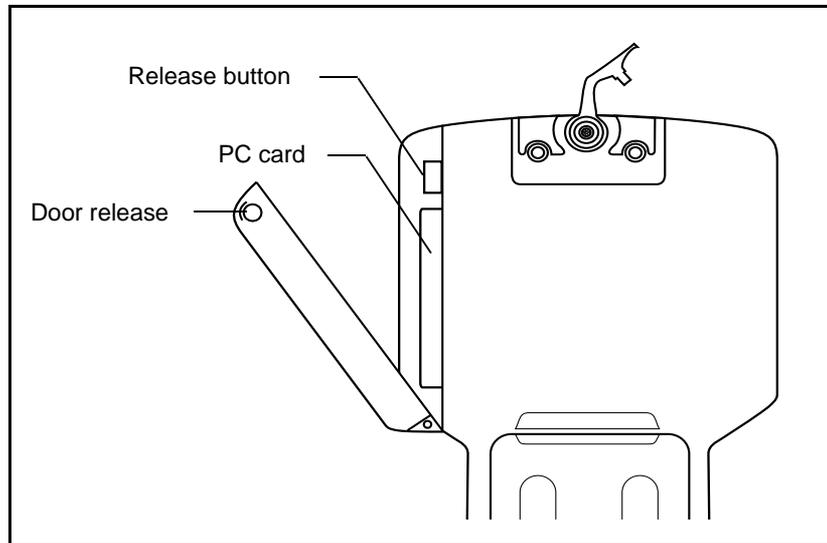

Figure 8.1 Removing a PC card
2. Press the PC card release button, and remove the card. See Figure 8.1 on page 150.
Figure 8.1 shows how to remove a PC card from the TSC1 data collector.